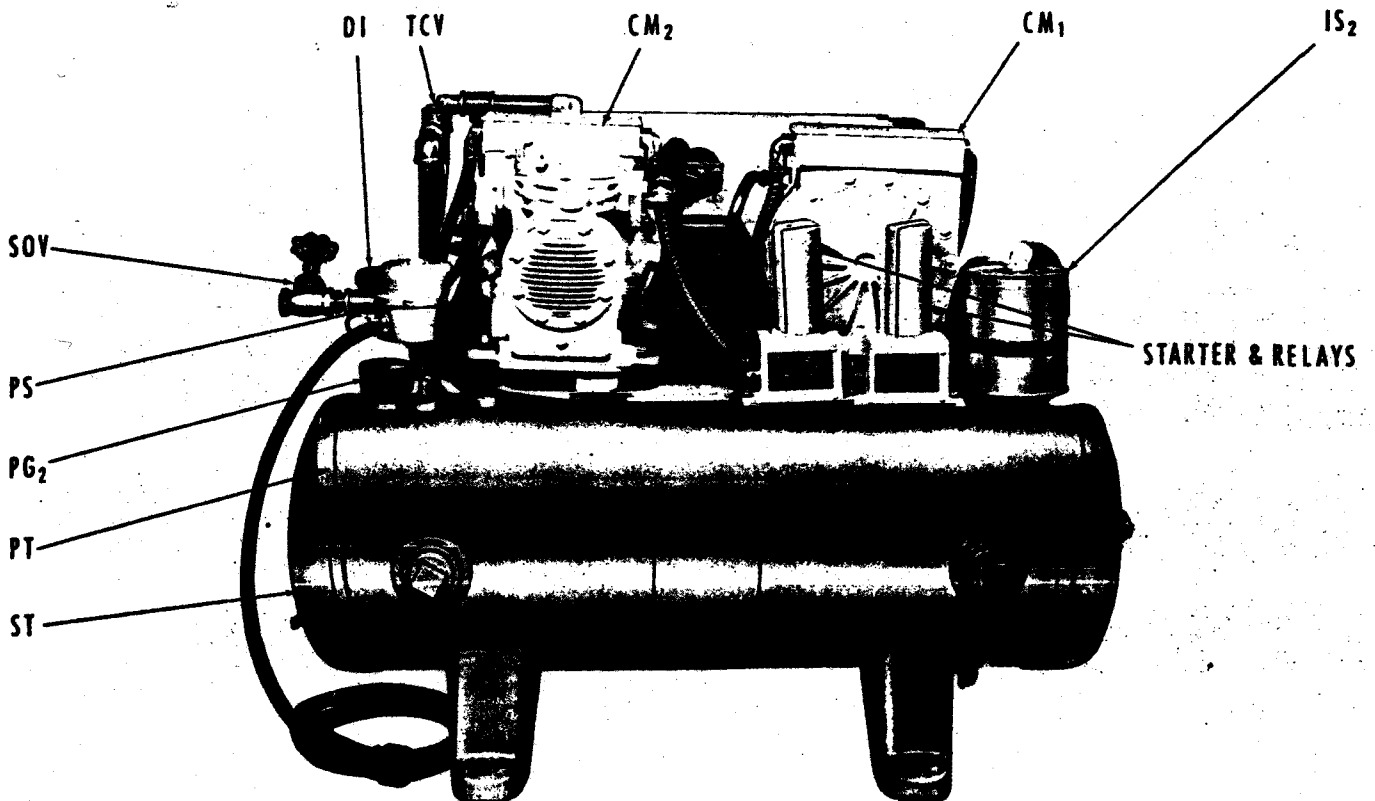

FIGURE 2. REAR VIEW—WITH COVER REMOVED
The COMPRESSO-DRI is equipped with a DRYNESS INDICATOR (DI). See Figs. 2 and 3. It has a color-sensitive material which is BLUE when the air is being properly dried. If the color begins to fade, then additional purging is required. This is discussed in the section immediately following on RESERVE PURGING.